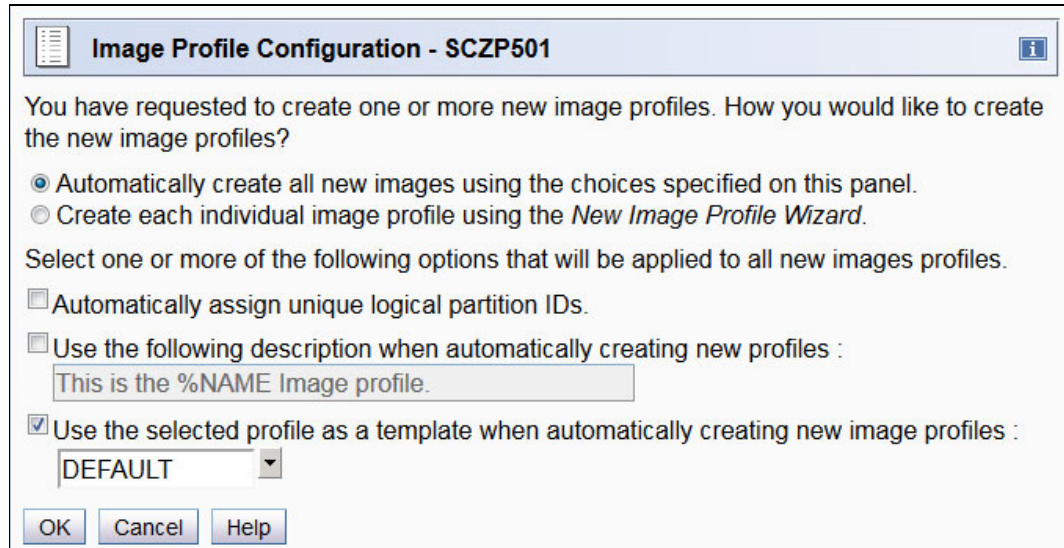

Figure 5-130 HMC - Image Profile automatic build options
- The HMC retrieves any Image profiles that match the LPAR names in the IOCDS that was selected. It also allows you to create new Image profiles for those that it cannot retrieve. In the example, the last option is selected. Click **OK** (Figure 5-130 on page 248).